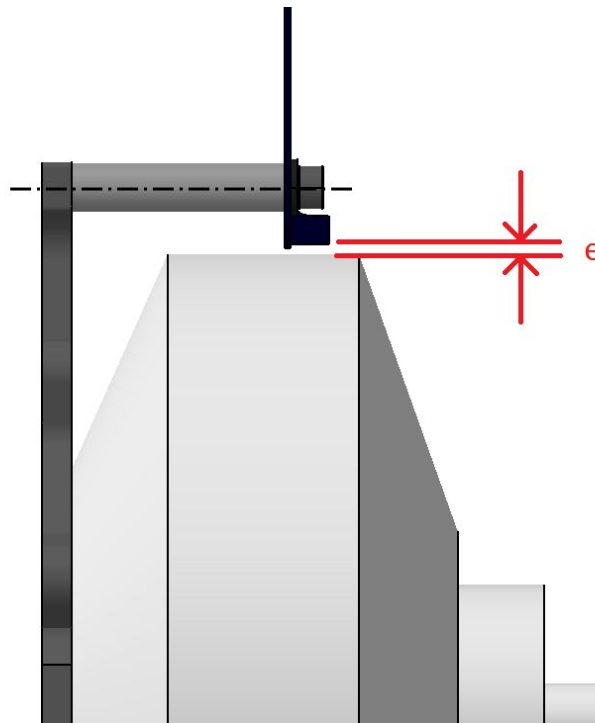

Fig. 4.35: Gap control between the probe and the motor
- ❑ Adjust the radial distance between the sensor head of the probe and the rotor edge, using the slots on the circuit. Make sure the gap between the optical sensor and the motor, shown as  $e$  in Fig. 4.35, is according to the specification.